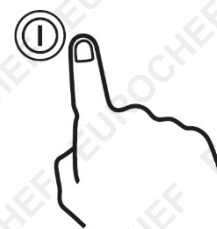

fig.1
1. Press the ON/OFF button (fig. 1) to switch on the appliance.